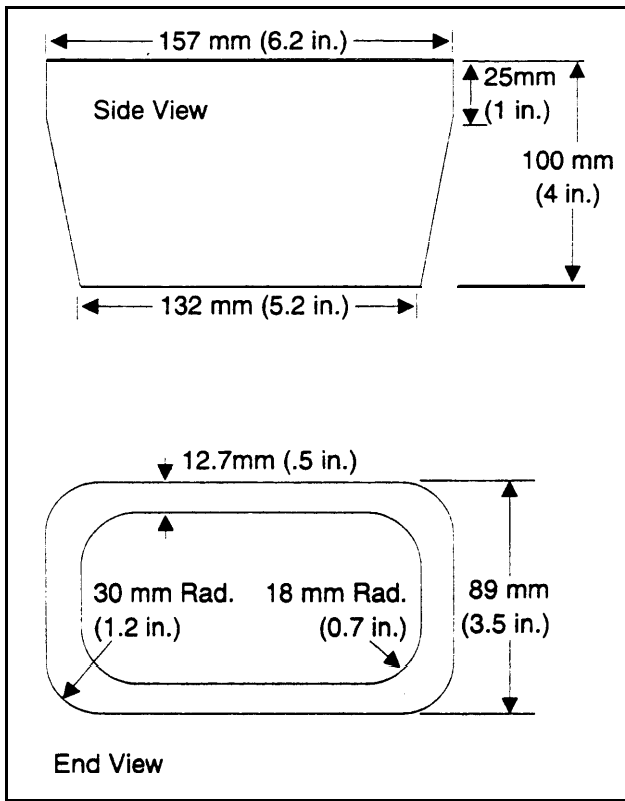

Figure 4-1: Torso probe.
- d. *Torso Probe (fig 4-1)\*.*
Any completely bounded opening that is accessible to children should meet all entrapment inspection requirements. The torso probe and head probe should be used to inspect openings for possible head and neck entrapments (fig 4-1 and 4-2). Openings between the safety
b. *Inspection Procedure for Compound Protrusions.* For compound protrusions, the inspector will successively place gauges over increasing diameters to determine compliance (fig 4-1 O). To pass the inspection, protrusions should not extend beyond the face of any of the three test gauges.
d. *Inspection Procedure for Compound Vertical Protrusions.* For compound vertical protrusions, the length of each individual protrusion surface should be measured (fig 4-1 1). To pass the inspection, the length of each individual protrusion surface should not project more than 3 mm (1/8-inch) above the adjacent horizontal surface. Next, the compound vertical protrusions should be tested by successively placing each of the three protrusion test gauges over the protrusion. To pass the inspection, the total length of the protrusion should not extend beyond the face of any of the three test gauges.